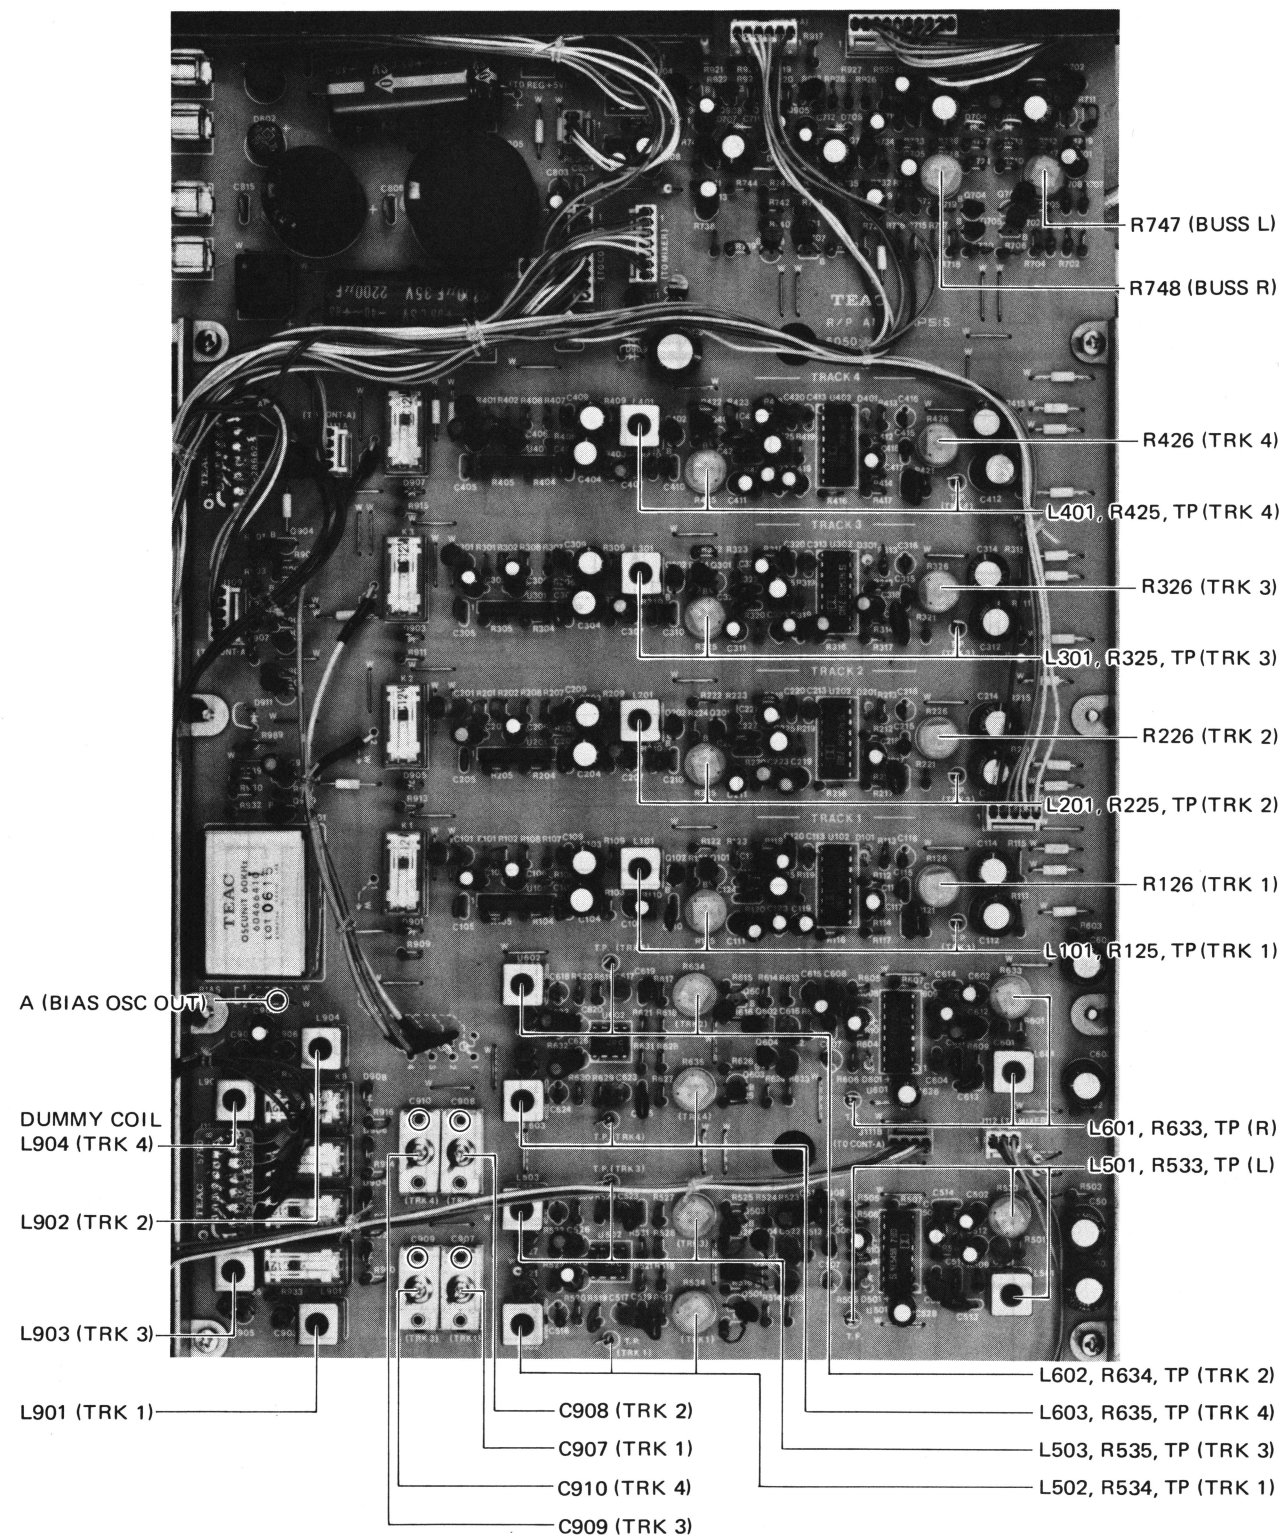

Fig. 5-11-1
- Refer to Fig. 5-11-1.
- To correct, adjust trim pots R747 and R748. Fig. 5-11-1.
- To adjust to 0VU, trim pots R126, R226, R326, and R426 are adjusted. Fig. 5-11-1.
- Connect a level meter to Check Terminal A (pin #4 of U901). Fig. 5-11-1.
Dummy coil : Fig 5-11-1.
- 8) Refer to Fig. 5-11-1.
- 4) For the L channel, connect an output level meter to TP (L) and adjust R533 for a 580mV (-4.7dB 0dB = 1V) reading.
- 5) For the R channel, the meter is connected to TP (R) and R633 adjusted, also for a reading of 580mV.
- 6) Refer to Fig. 5-11-1.